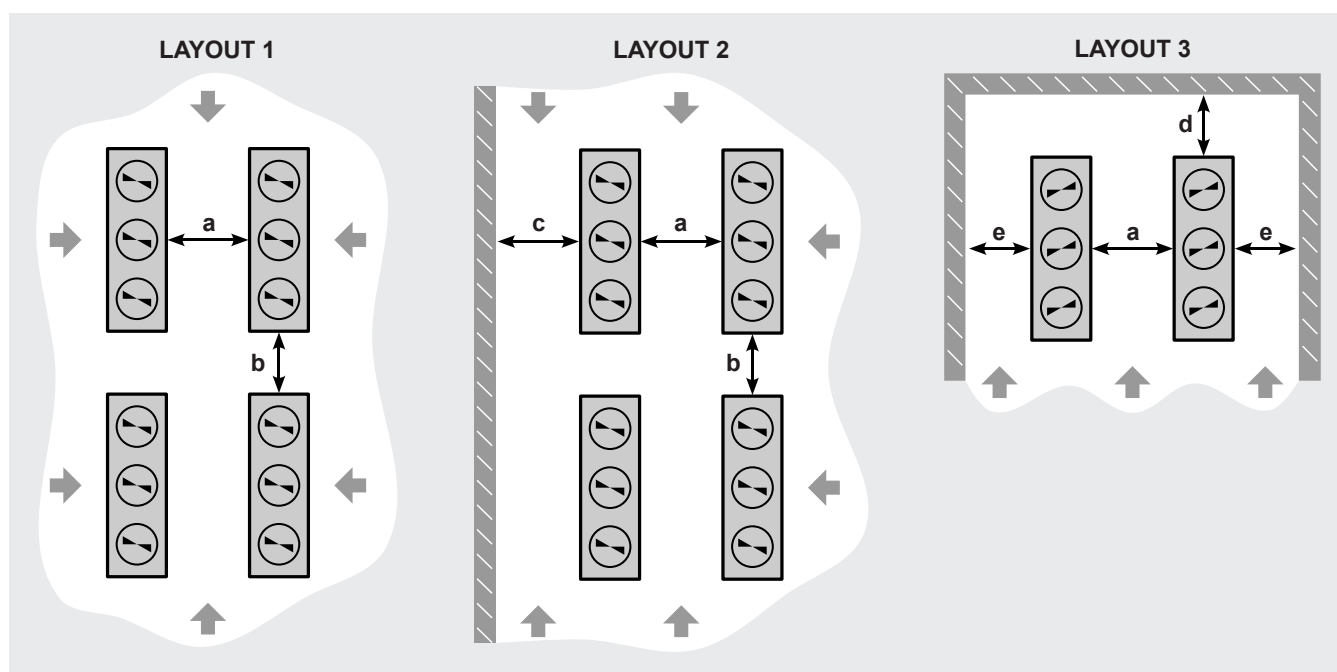
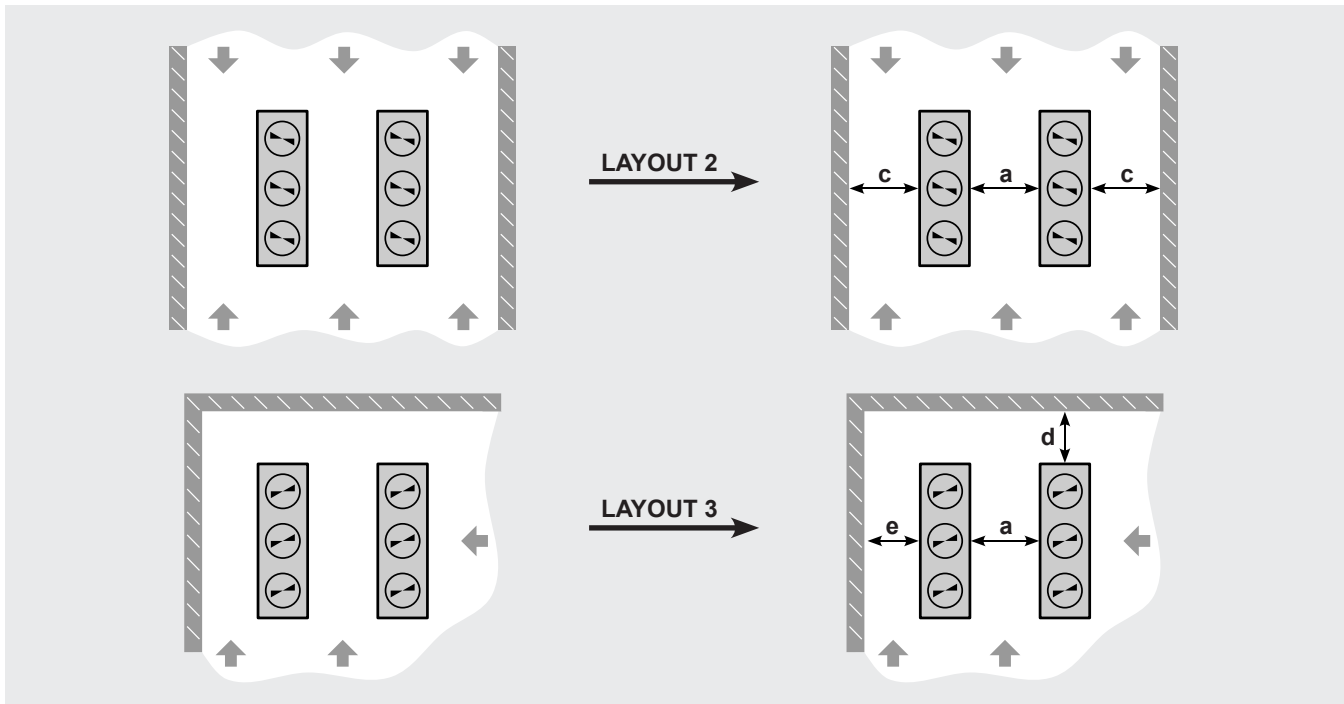

Figure 8
Figure 9
- 5.2 Modine identified a number of significant installation layouts for which minimum clearances have been defined. See Figure 8.
- 5.8 The actual installation conditions are diverse and it is not possible to create an exhaustive list. The actual installation conditions must therefore be traced back to the layouts in Figure 8 or combinations thereof. The larger tabulated values should always be considered for the clearances. Observe Figure 9 for illustrative and non-exhaustive purposes only.
5.11 Table 2 shows, with reference to Figure 8, the recommended minimum clearances for both V-Type, condenser, gas cooler and dry cooler models as well as for adiabatic Eco-Batic® - AV series models in the case of ground installation, with zero elevation ( $Z = 0$ ).
5.12 With regard to V-Types, condensers, gas coolers and dry coolers, the recommended minimum model-to-model distance "a" (see Figure 8) can be reduced by elevating the models above the ground. The supporting structure must be such that air can pass through with negligible pressure drop.
5.13 With reference to V-Types, condensers, gas coolers and dry coolers, the value of the model-to-model distance "a" (see Figure 8) as a function of the elevation height Z in the case of Layout 1, Layout 2, Layout 3 is shown in Table 3, Table 4, Table 5 respectively.
5.14 The elevation does not affect the other distances in Layouts 1, 2 and 3 ("b", "c", "d", "e" - see Figure 8): the values in Table 2 remain valid even for  $Z > 0$ .